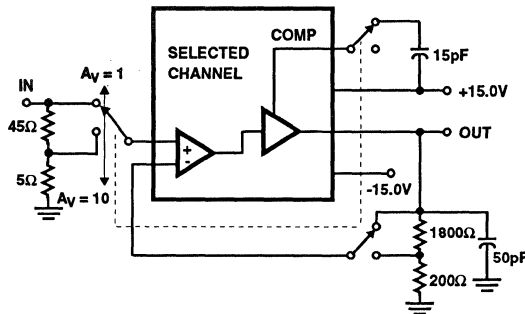

FIGURE 11. SLEW RATE AND TRANSIENT RESPONSE
16. See Figure 11 for test circuit.